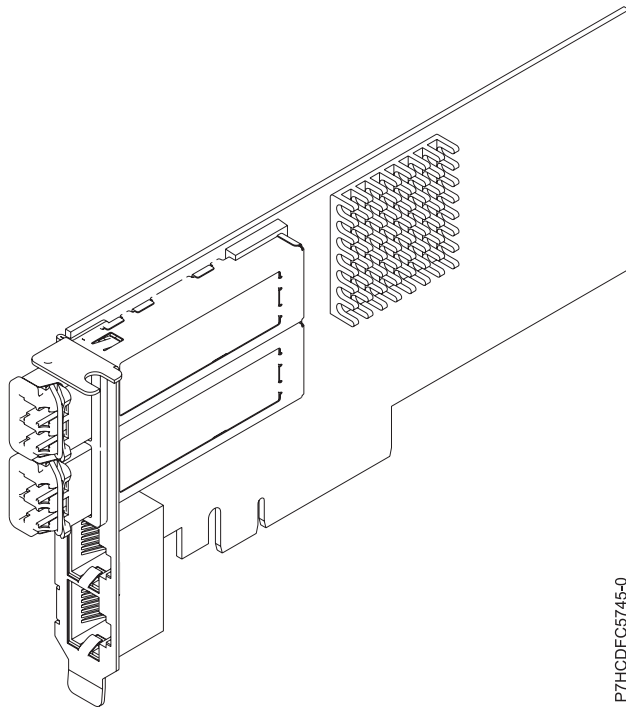

Figure 51. FC EL38 adapter
The four-port adapter provides two 10 Gb FCoE SR small form-factor pluggable (SFP+) ports and two 1 Gb RJ45 Ethernet ports. The two 10 Gb FCoE ports are connected by little connector-type (LC) connectors. Each FCoE port provides Ethernet connectivity with a nominal data rate of 10 Gbps (gigabits per second). Each of the 1 Gb ports provides Ethernet connectivity at a data rate of 1 Gbps and is connected with Ethernet cables. A 10 Mb data rate is not supported. Figure 51 shows the FC EL38 adapter.